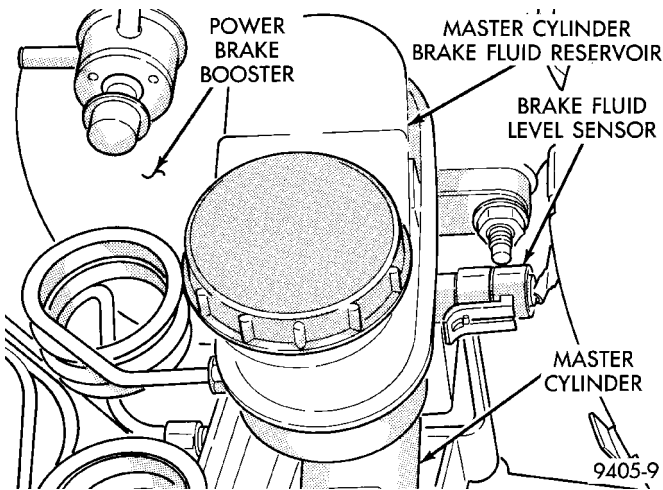

Fig. 112 Master Cylinder Fluid Level Sensor
(2) Remove vehicle wiring harness connector from brake fluid level sensor located in master cylinder brake fluid reservoir (Fig. 112).